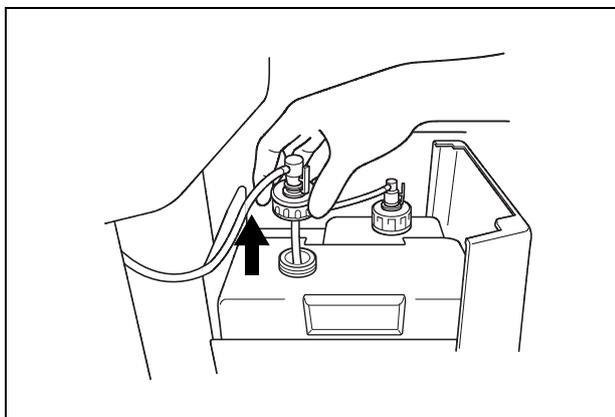

Figure 7.98
3. Detach the detergent tank cap to which a tube is connected (Do not disconnect the connector.) (see Figure 7.98).